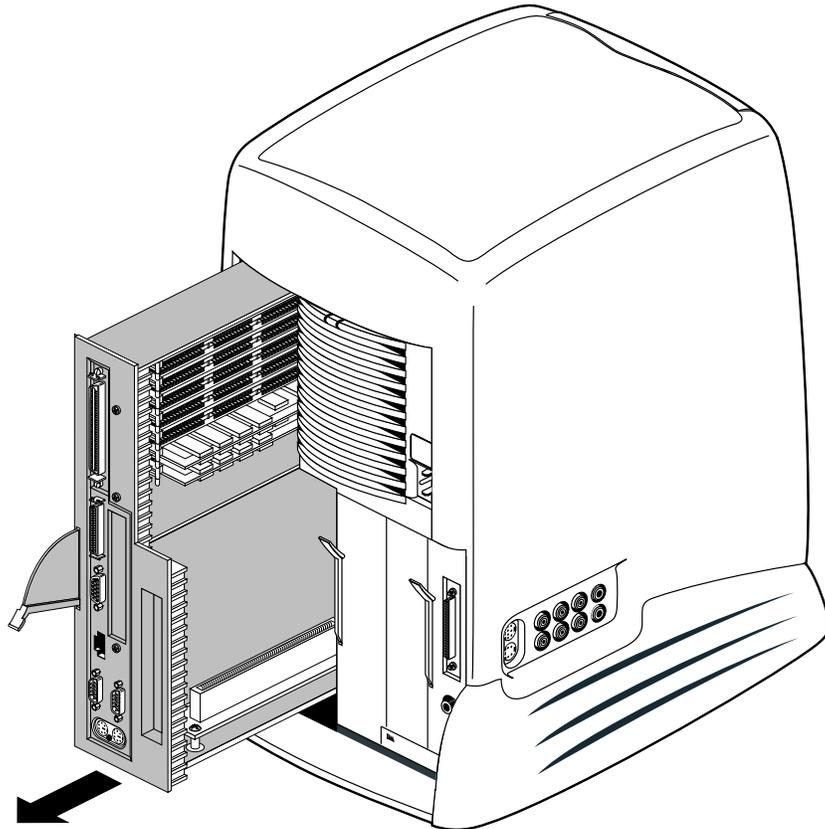

Figure 1-4 Removing the System Module From the Chassis
4. Slide the system module out of the chassis (Figure 1-4).